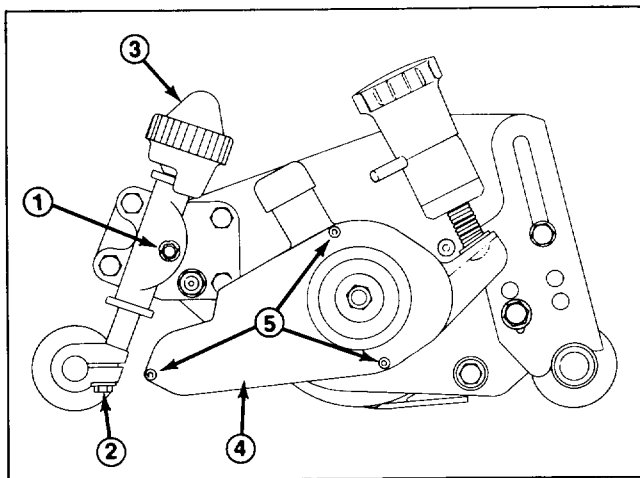
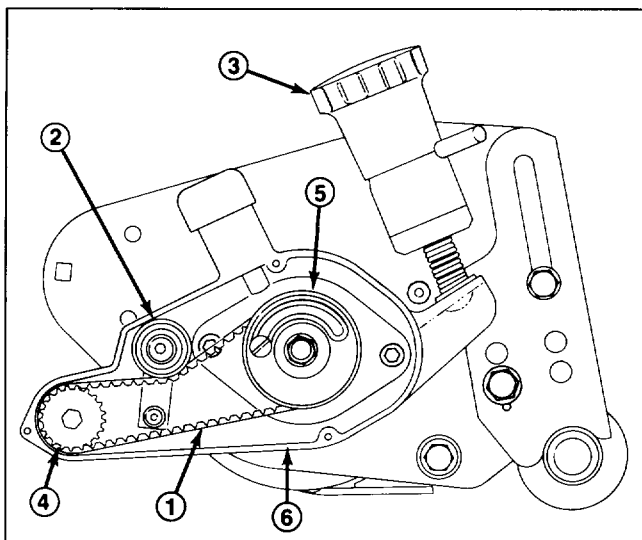

Figure 23
Figure 24
1. Loosen the locknuts securing the height of cut adjusting rods at both ends of the cutting unit and the roller shaft clamp bolts (Fig. 23).
2. Turn the height of cut adjustment knobs until they disconnect from the height of cut adjusting rods (Fig. 23). The knobs are captivated on the upper washer face of height of cut clamp.
2. Remove the left side grooming reel housing cover (Fig. 23). Loosen the idler pulley and remove the drive belt (Fig. 24).
3. Remove the grooming reel adjustment knob assembly from the belt drive housing (Fig. 24).
4. Remove the groomer driven belt pulley and clutch adapter assembly from the reel shaft and remove the left side groomer reel housing (Fig. 24).
6. Reassemble the components onto the cutting unit. Check drive belt tension before installing the cover. There should be 1/4 inch deflection when a force of 5-10 lb is applied midway between the drive and driven pulleys (Fig. 24). To adjust belt tension, loosen the backside idler pivot screw and pivot the idler to achieve proper tension. Torque the pivot screw to 7-10 ft-lb.